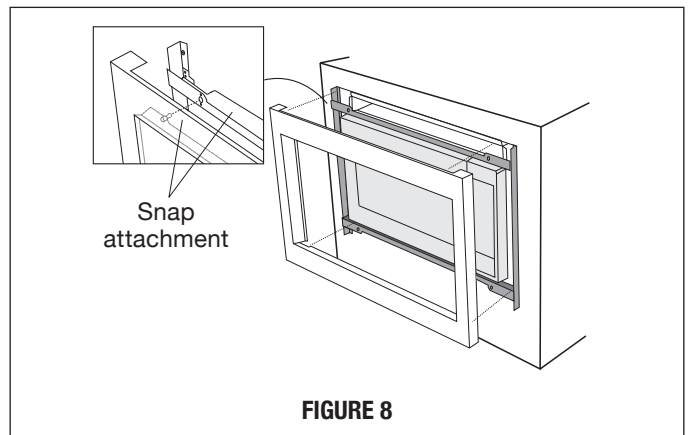

FIGURE 8
5. Install Air Deflectors top and bottom. Center (left and right) the Air Deflectors above and below the installed BACK FRAME. Secure AIR DEFLECTORS with 4 SCREWS E. See Figure 8. Mark holes and pre-drill the wood cleats with $\frac{1}{16}$ " drill bit.